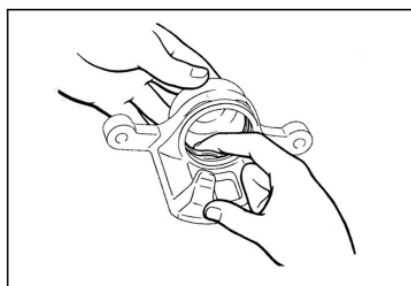

Fig. 16-39
1) Remove the piston seal with finger tip.(see Fig.16-39)。